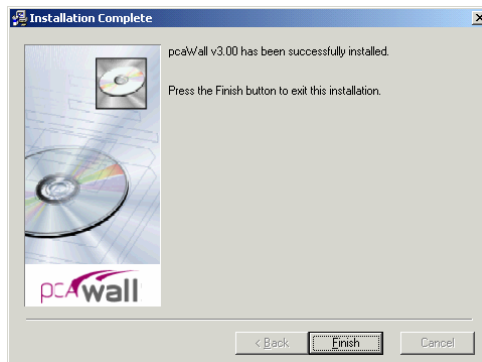

Figure 1-9. Installation Complete
11. After the installation is completed, a dialog box similar to Figure 1-9 is shown. Press the FINISH button to finish the installation.